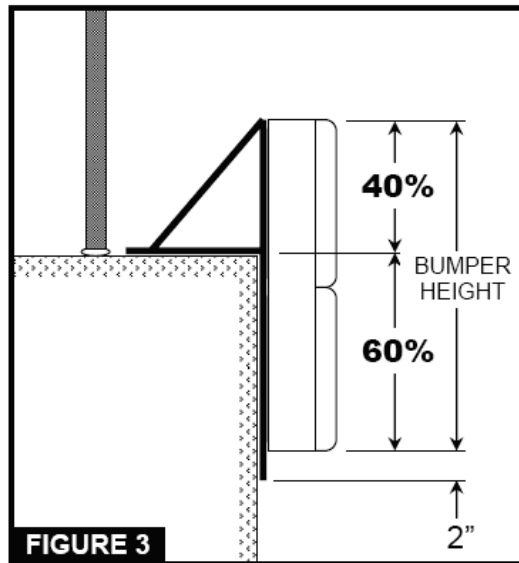

FIGURE 3
Step 6c. Choose the appropriate size dock bumper so that at least 60% of the entire height is "below dock". See figure 3.